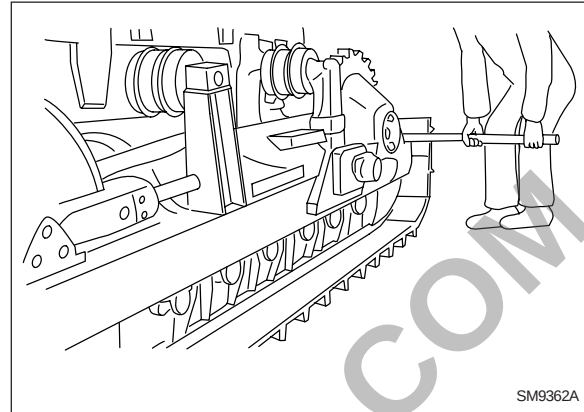

Fig. 9
1. Position the track chain so that the junction point is corresponding to the sprocket (Fig. 9).